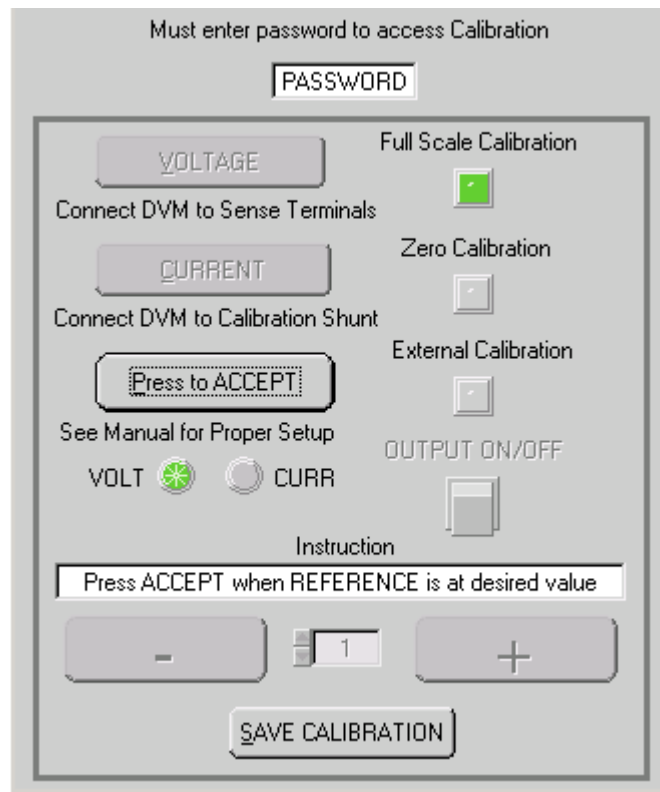

FIGURE 4-5. ANALOG REFERENCE CALIBRATION WINDOW
1. Click the **ANALOG REF** button on the Calibration Window; the Analog Reference Calibration Window (Figure 4-5) appears and the status display on the VXI main panel reads **INPV**. With the reference voltage adjusted to 10.000V, click the **PRESS TO ACCEPT** button to accept the value.